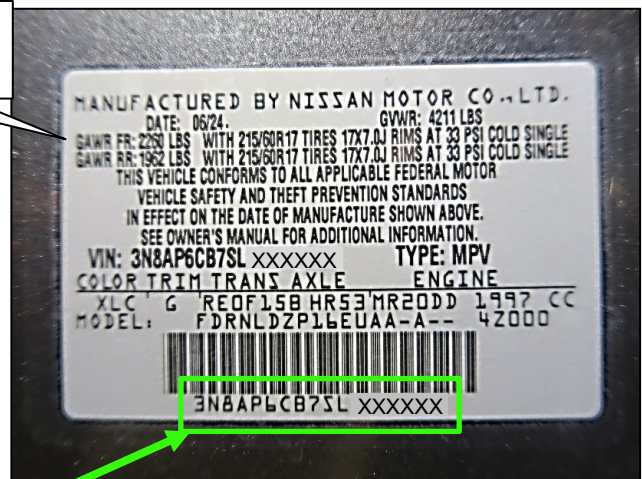
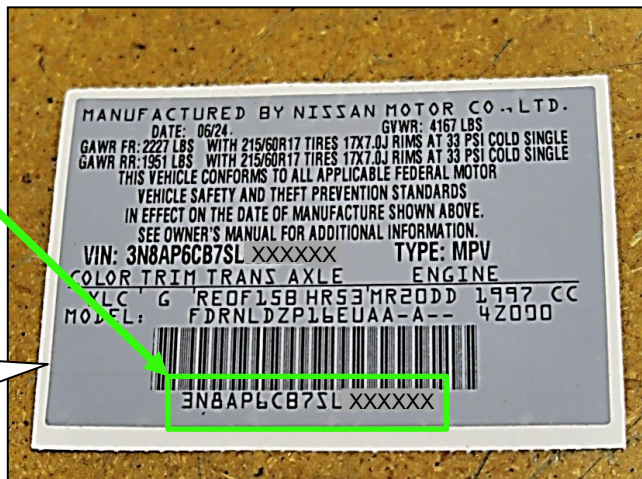

Figure 3
Figure 4
4. Make sure the VIN on the new Certification Label matches the VIN on the old Certification Label (Figure 3 and Figure 4).